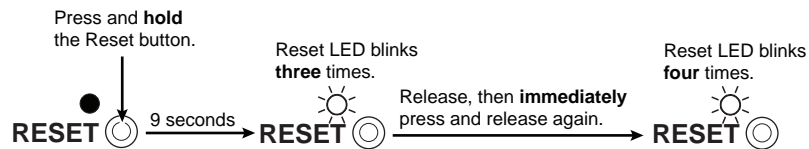

Figure 3-62 — System reset
1. Use an Extron Tweezer to press and **hold** the Reset button until the rear panel Reset LED blinks three times (approximately 9 seconds) (figure 3-62).